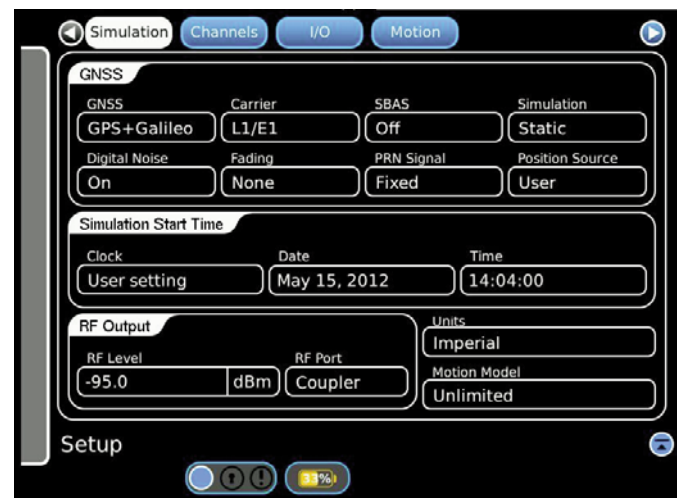

Figure 5
6. On both GPSG-1000 units Setup screen select the Simulation tab. Set the Simulated Start Time fields to the same values. Set the RF Output, RF Level to the same value. See Figure 5.
7. On the GPSG-1000 #1 Setup screen in the GNSS fields, set GNSS to GPS+Galileo and Carrier to L1/E1. See Figure 5.